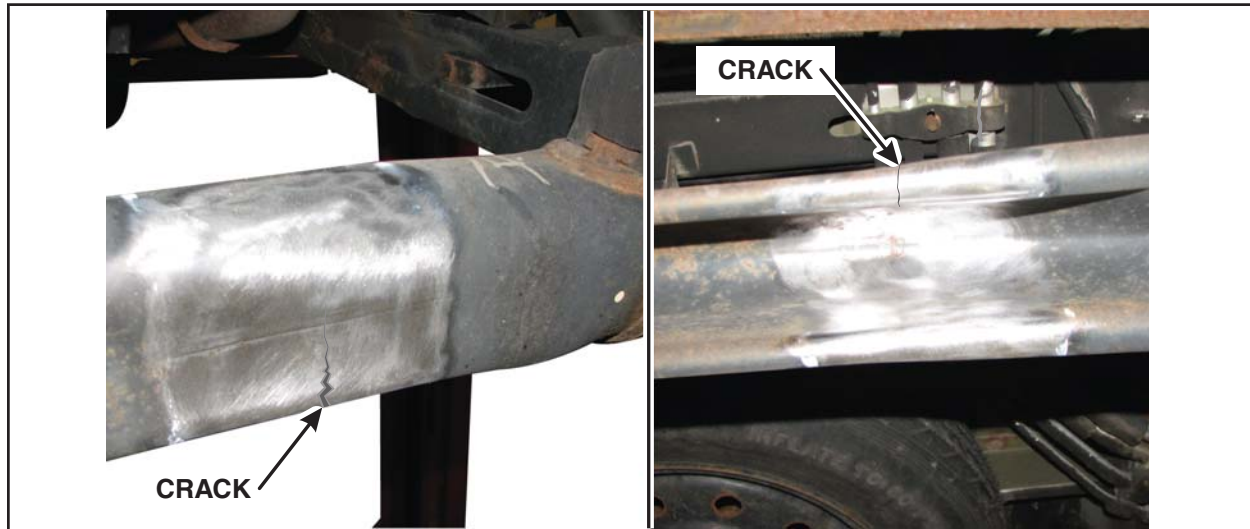

FIGURE 1
1. Visually inspect the entire rear axle beam for cracks. See Figure 1.